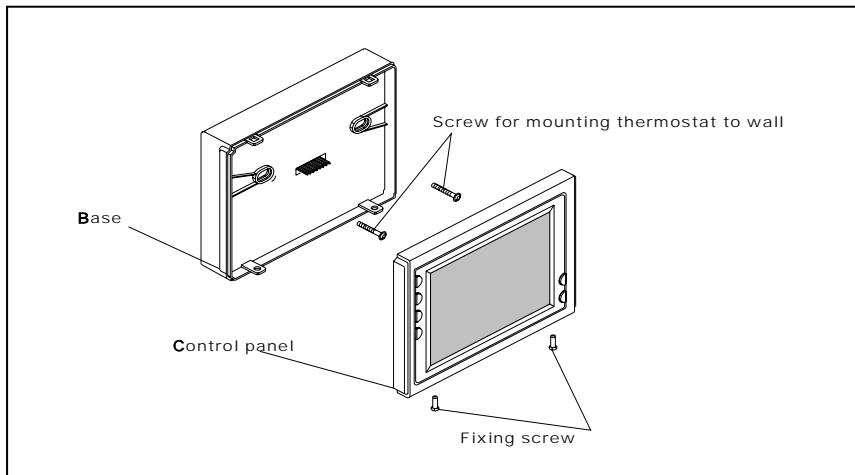

Figure 5
1. Remove 2 screws from the bottom of thermostat. (See Figure 5) Gently pull the control panel straight off the base. Forcing or prying on the thermostat will cause damage to the unit.
4. Replace control panel on the power base and fix power base and control panel by removed two screws in item 1.